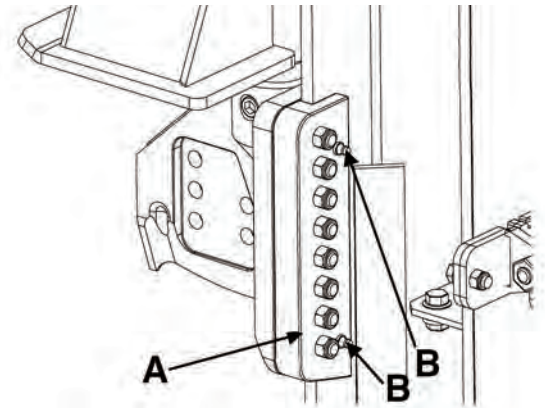

Figure 17
- 1) Pump grease into grease zerks (B) Fig.17 found under each keeper (A). This will help prevent wear between the keepers and beam.